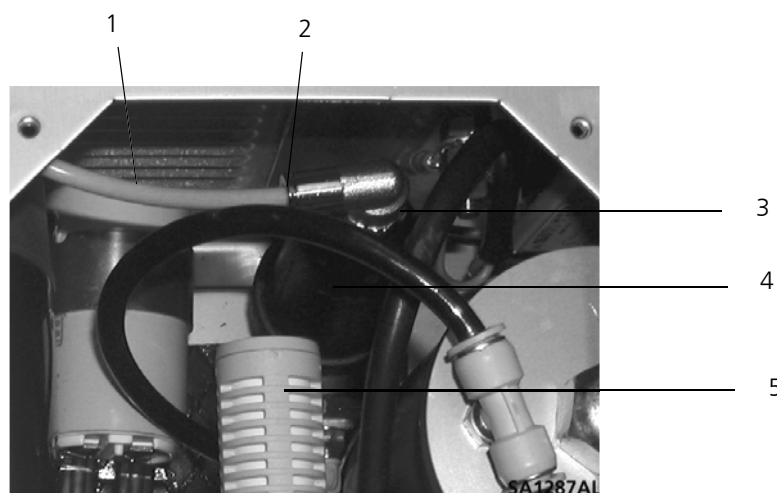

Fig. 4 – 4 Opening the metal container
- Unscrew the metal container (Fig. 4 – 4/4) from its mounting, eventually using a pair of pliers. For this purpose, please seize the nut of the L-type screwed tube joint (Fig. 4 – 4/3).